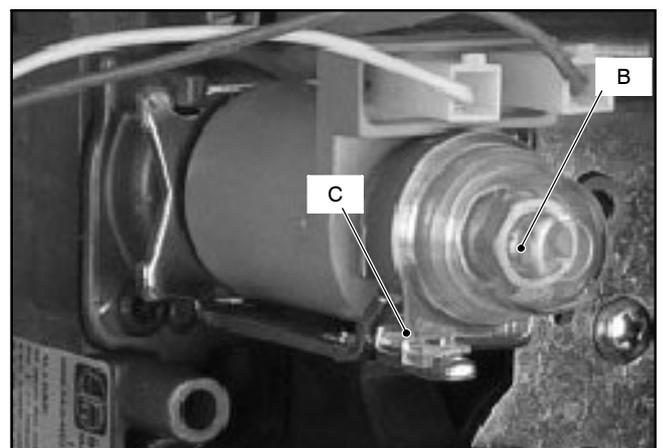

Fig. 3
- 5 Remove the protection cap B (Fig. 3) from the mechanical pressure adjustment components levering with a flat screwdriver in the slots C.